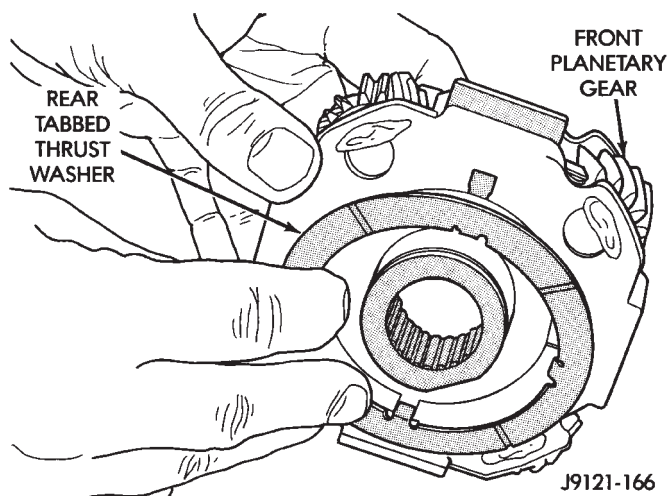

Fig. 89 Installing Rear Thrust Washer On Front Planetary Gear
(13) Install rear thrust washer on front planetary gear (Fig. 89). Use enough petroleum jelly to hold washer in place and be sure all four washer tabs are seated.